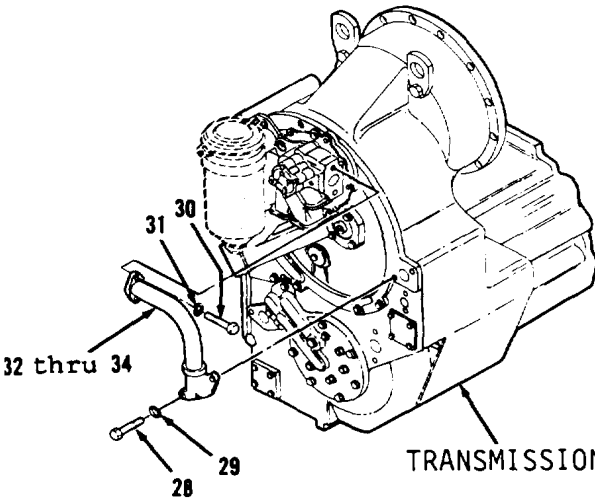

Figure 5-53.
- 9. Remove two bolts (28), lock-washers (29), two bolts (30), lockwashers (31) and items 32 thru 34 as an assembly (Figure 5-53).